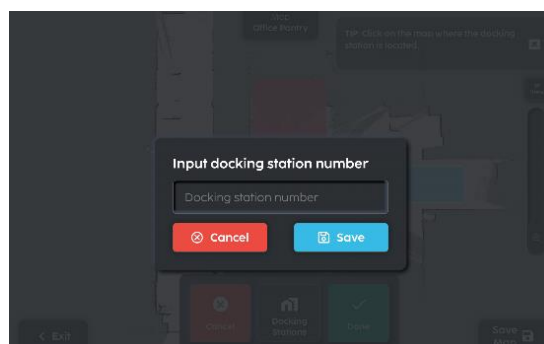

Fig 12
12. When station is registered (Fig 12) select 'yes'.